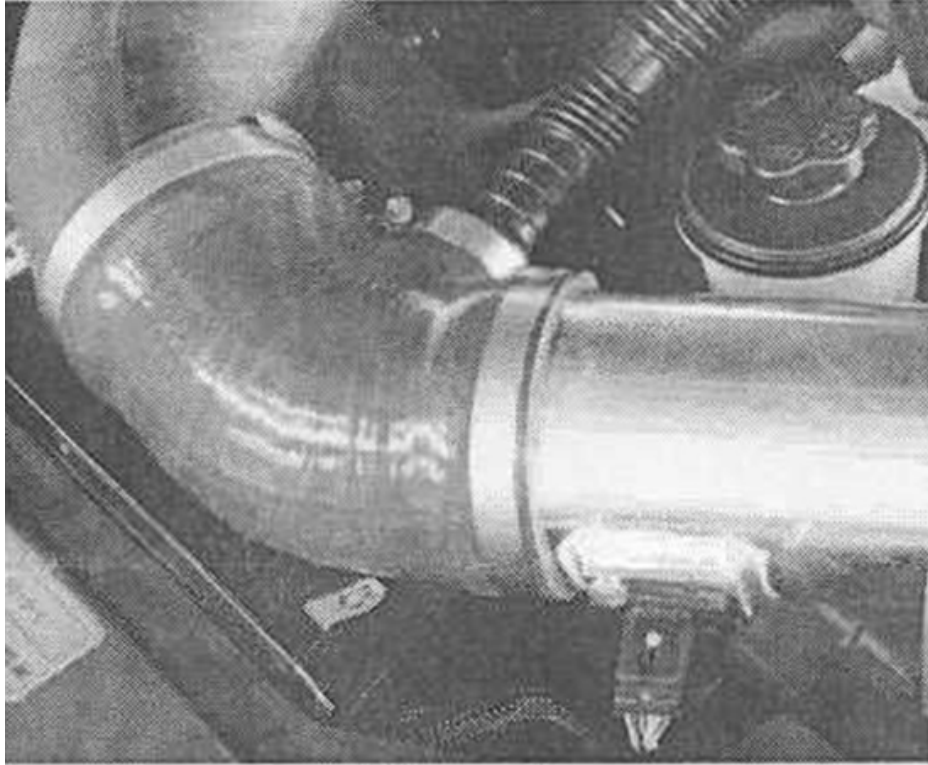

Figure 11
3. Finally, fit the circular end of the supplied plastic air intake tube into the other end. The assembly should look similar to Figure 11.